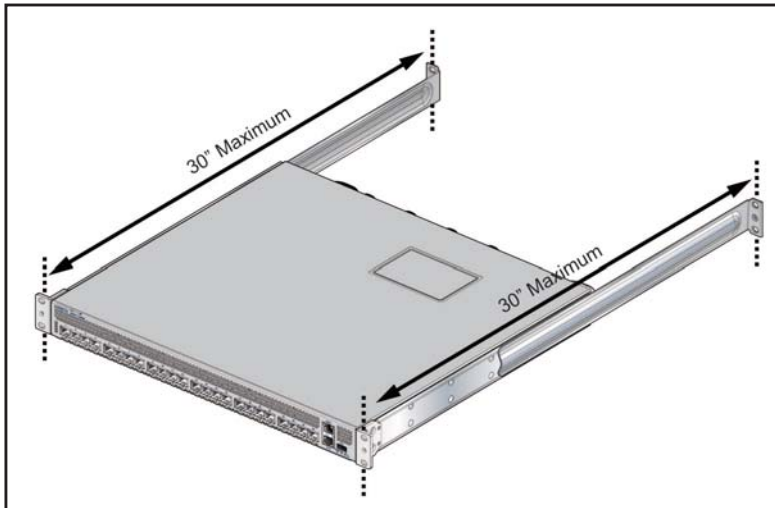

Figure 3-10: Maximum Bracket-Rail Span
The rails attach to the rear rack posts to support the switch. Before attaching the rails to the rack posts, verify that, when the switch is mounted, the distance between the bracket flanges and rail flanges does not exceed 30 inches, as shown in Figure 3-10.
- Step 4** Verify the distance between the mounting bracket flanges and rail flanges does not exceed 30 inches (Figure 3-10 on page 11).